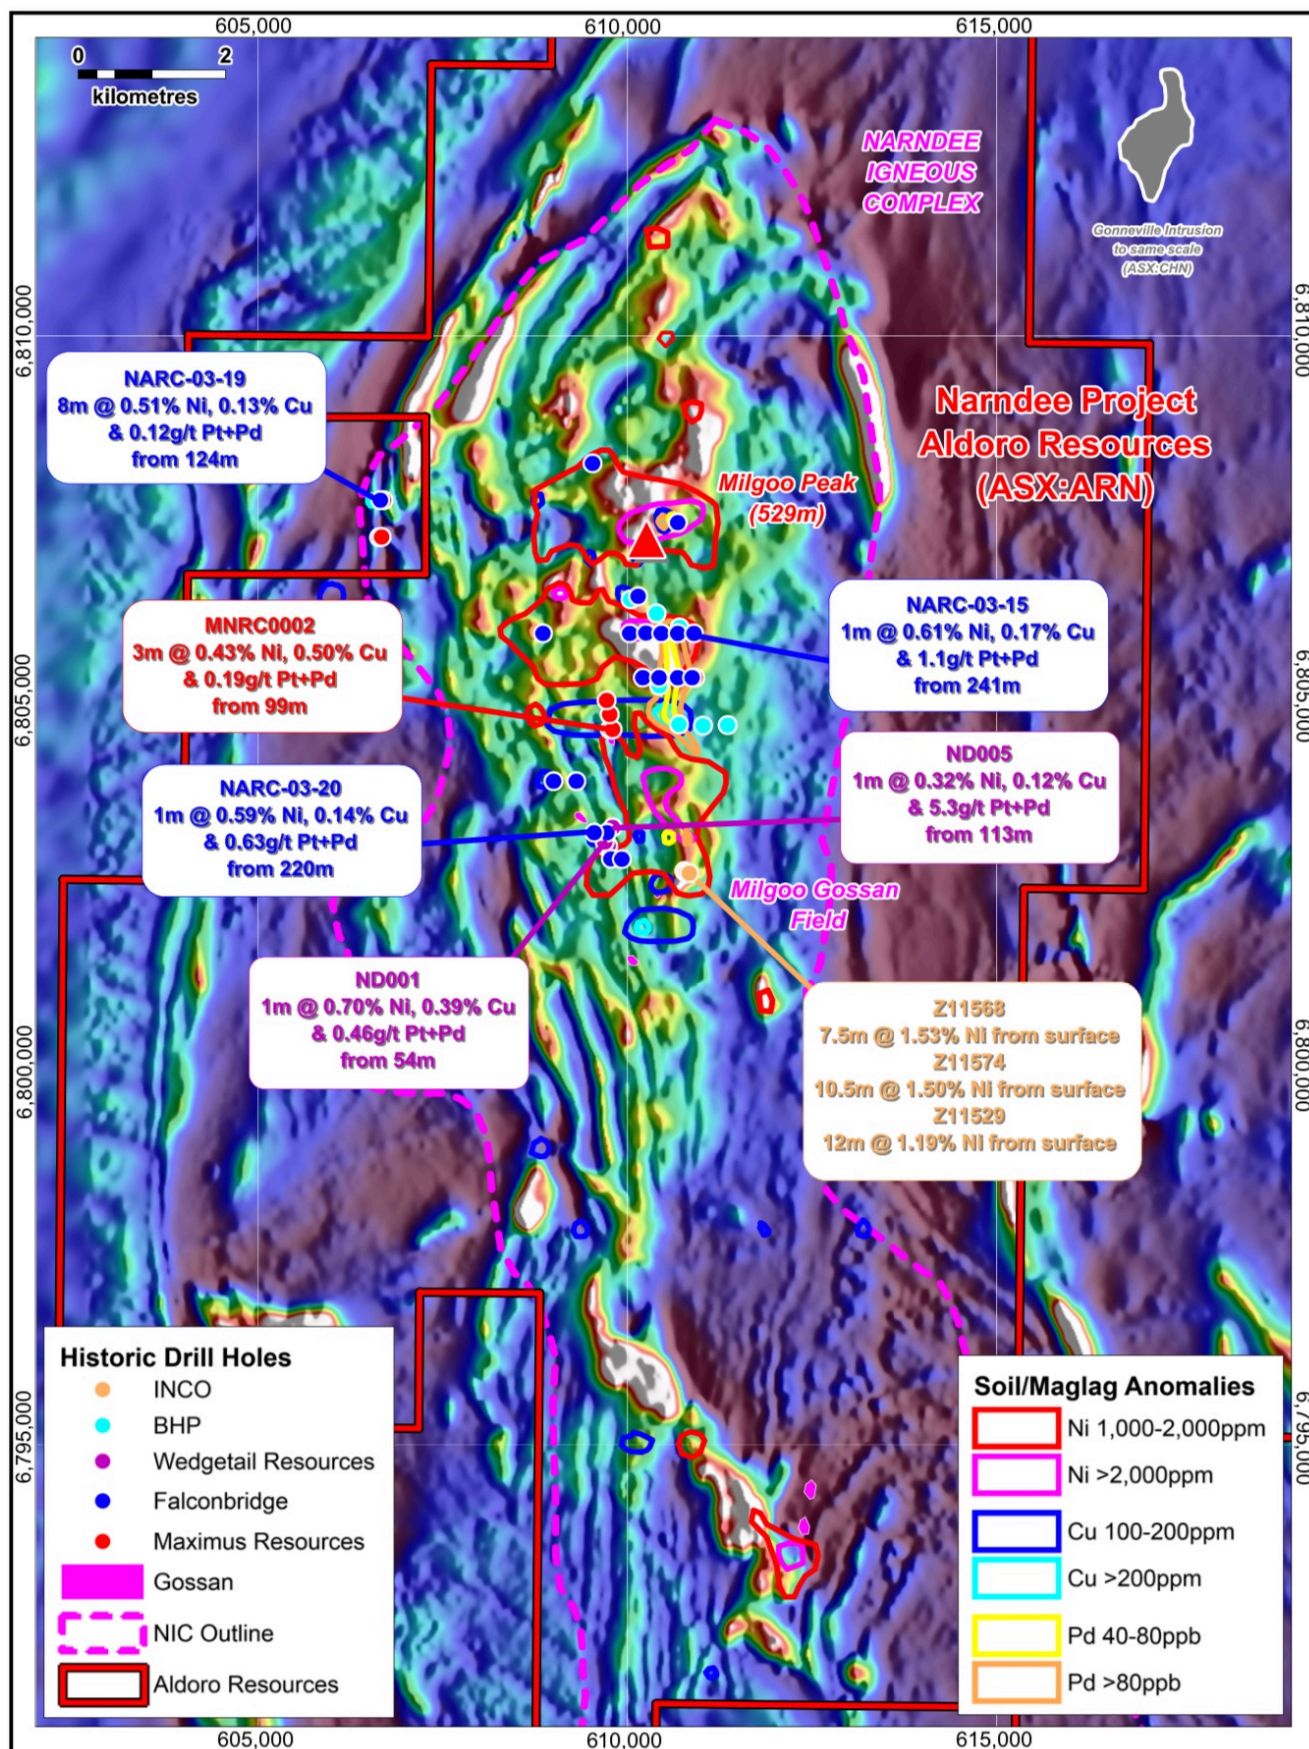

Figure 4: Geochemical Anomalies and Significant Historic Drill Holes
Falconbridge conducted geochemical surface sampling across the NIC finding **widespread Ni-Cu-PGE anomalies of up to 6,190ppm Ni, 672ppm Cu and 595ppb Pt+Pd in soil and magnetic lag** samples (Figure 4). They conducted a 20 hole reverse circulation (RC) drilling program, the most comprehensive program to date within Aldoro's under-explored 306km² project area - with only 37 holes deeper than 100m drilled within the Nardee Project area, including these Falconbridge holes.